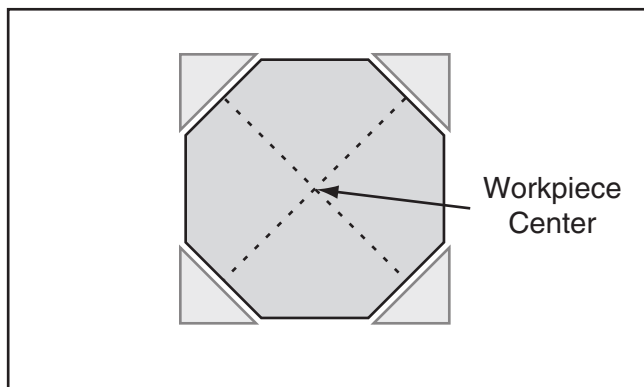

Figure 34. Corners of workpiece removed.
5. If your workpiece is over 2" x 2", cut corners off workpiece lengthwise to make turning safer and easier (see **Figure 34**).